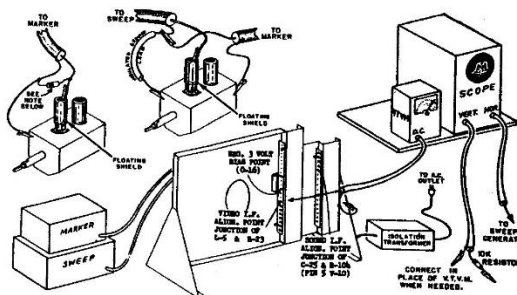

Figure 5. - CONNECTIONS FOR I.F. ALIGNMENT
2. Connect scope to video I.F. align point (See location Fig. 5).
3. Connect 3 volt bias battery positive terminal to chassis, negative terminal to top of C-16 (See Fig. 5).
NOTE: It is important that the output cable of the sweep and marker generator be properly terminated in their characteristic impedance which is usually from 50 to 70 ohms. If this termination has not been built into the end of the cable by the instrument manufacturer, then a resistor of the proper value (characteristic impedance) should be connected as shown in Fig. 5.